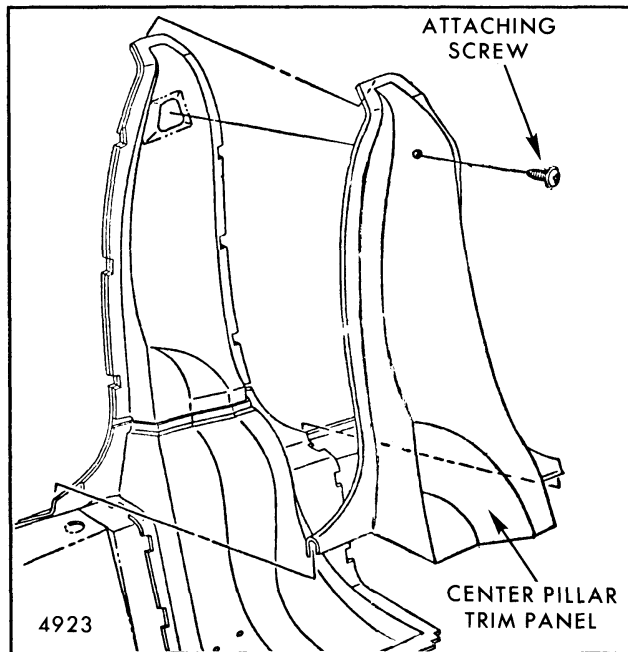

Fig. 5-17-Center Pillar Trim Attachment Hardtop Styles
2. On hardtop styles, remove attaching screw securing center pillar trim panel to center pillar brace (Fig. 5-17). Then, remove trim from pillar by lifting straight-up to clear retaining flanges.